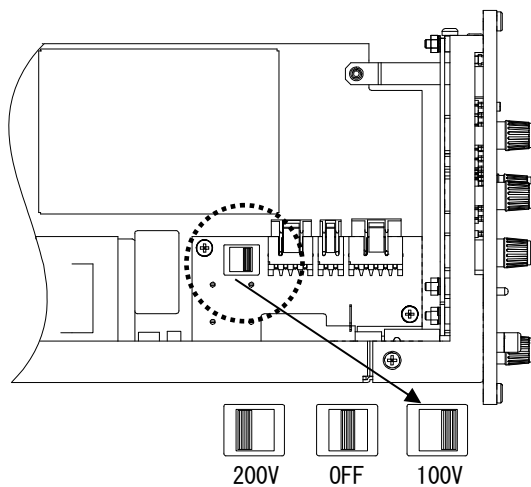

Fig. 6-7 AC power supply voltage selector
3. The AC power supply selection switch is positioned at the location shown in Figure 6-7. Selection to 200 VAC, OFF, and 100 VAC is available. Voltage switching is available by sliding the switch to the target voltage position. The AC fuse can support both 100 VAC and 200 VAC. The preinstalled fuse (100 VAC/200 VAC, 100 mA: 0334-4306) can therefore be used for both supply voltages.